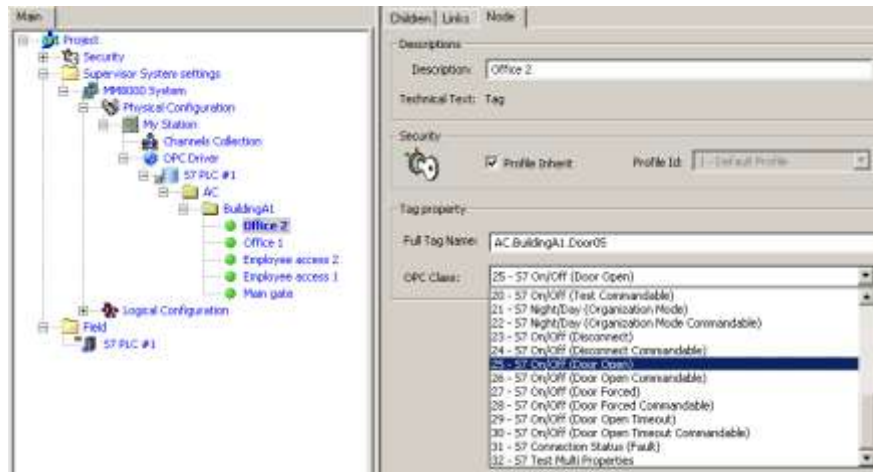

Fig 35 Selecting the OPC item class
- On the right, the OPC class form appears (Fig 35).